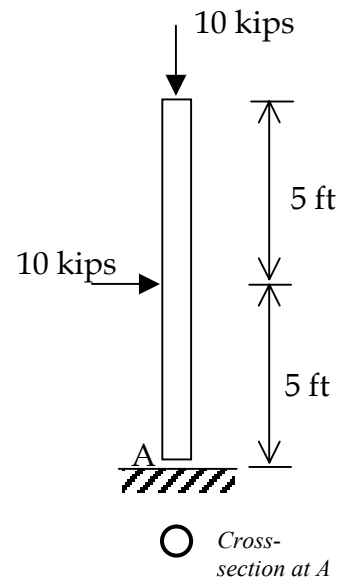

Figure 2.
2) For the vertical cantilever beam shown in Figure 2: